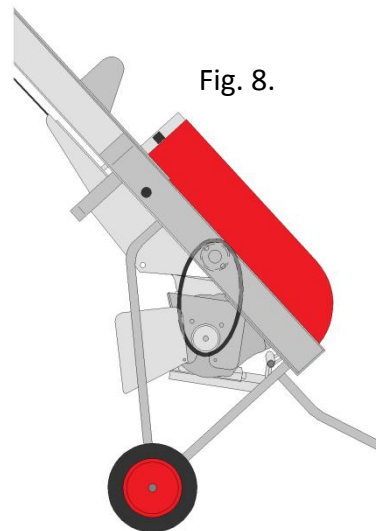

Fig. 8.
9. Lift anti-luce fastener and rotate belt cover clear to expose pulley. Place vee belts onto machine pulley, then lift engine to position belts onto engine pulley. Lower engine. (Fig. 8.)